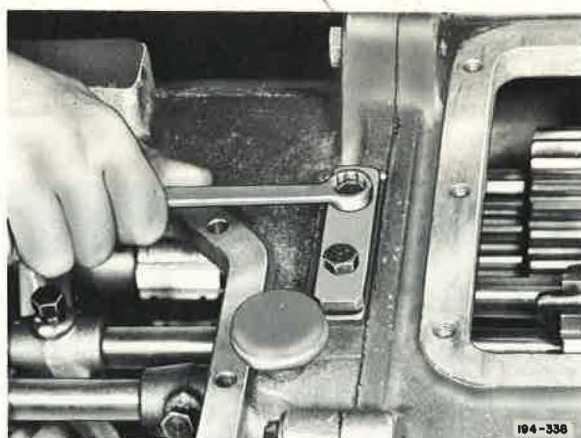

Figure 49. Tightening Shift Rail Poppet Ball Cover Capscrews
32. Install poppet ball cover with capscrews and tighten capscrews to recommended torque. See Figure 49.